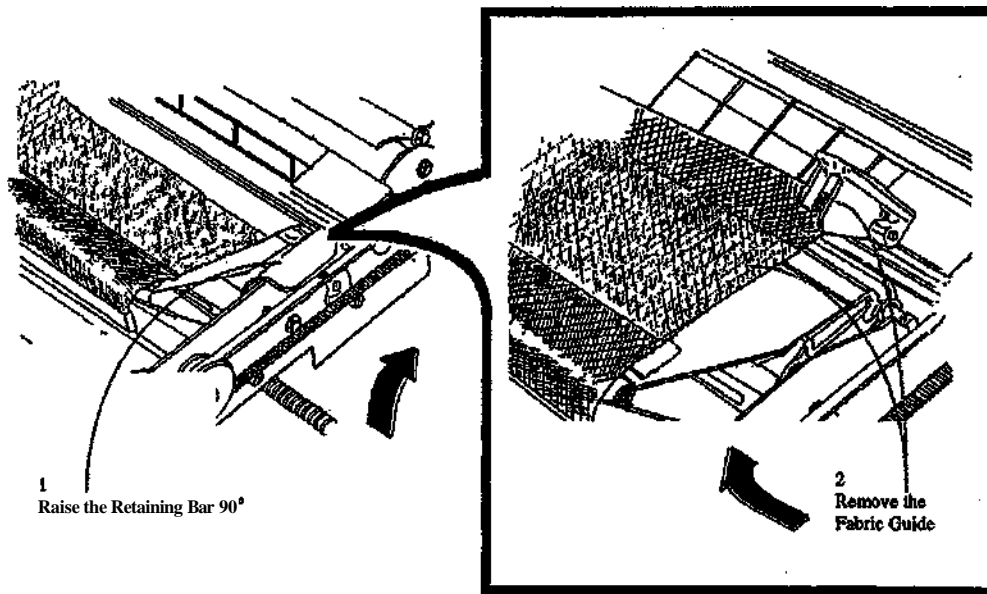

Figure 1. Removing the Fabric Guide
2. (Figure 1): Carefully reach into the Printer and remove the Fabric Guide.